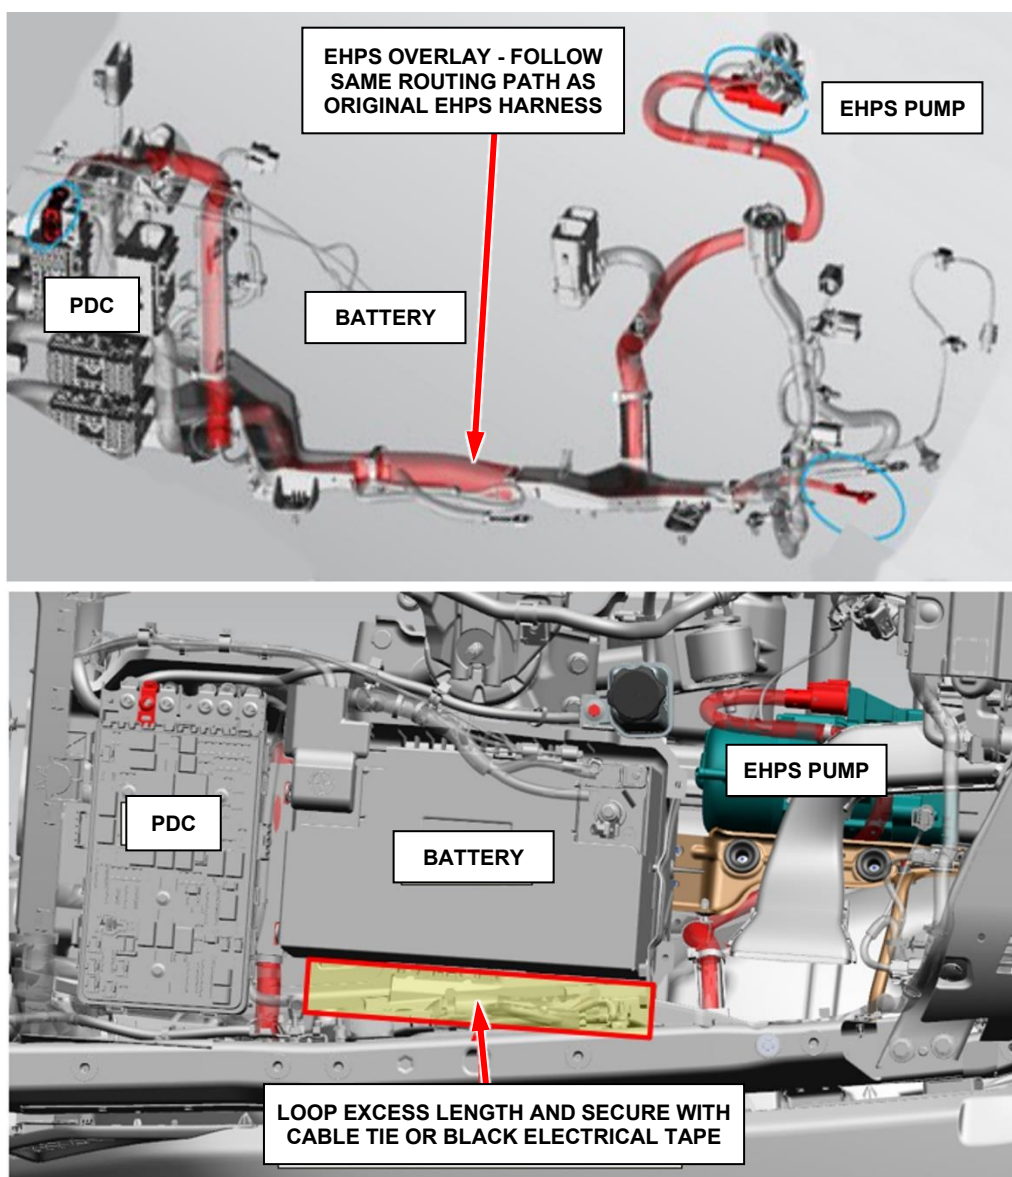

Figure A19 – Power Steering Pump Wire Harness Overlay Routing
52. Route remainder of EHPS overlay harness along existing dash harness bundle routing, securing double tie strap clips to existing dash harness wiring bundle. Make sure overlay is not in direct contact with sharp edges. Reference routing pictures below (Figure A19).